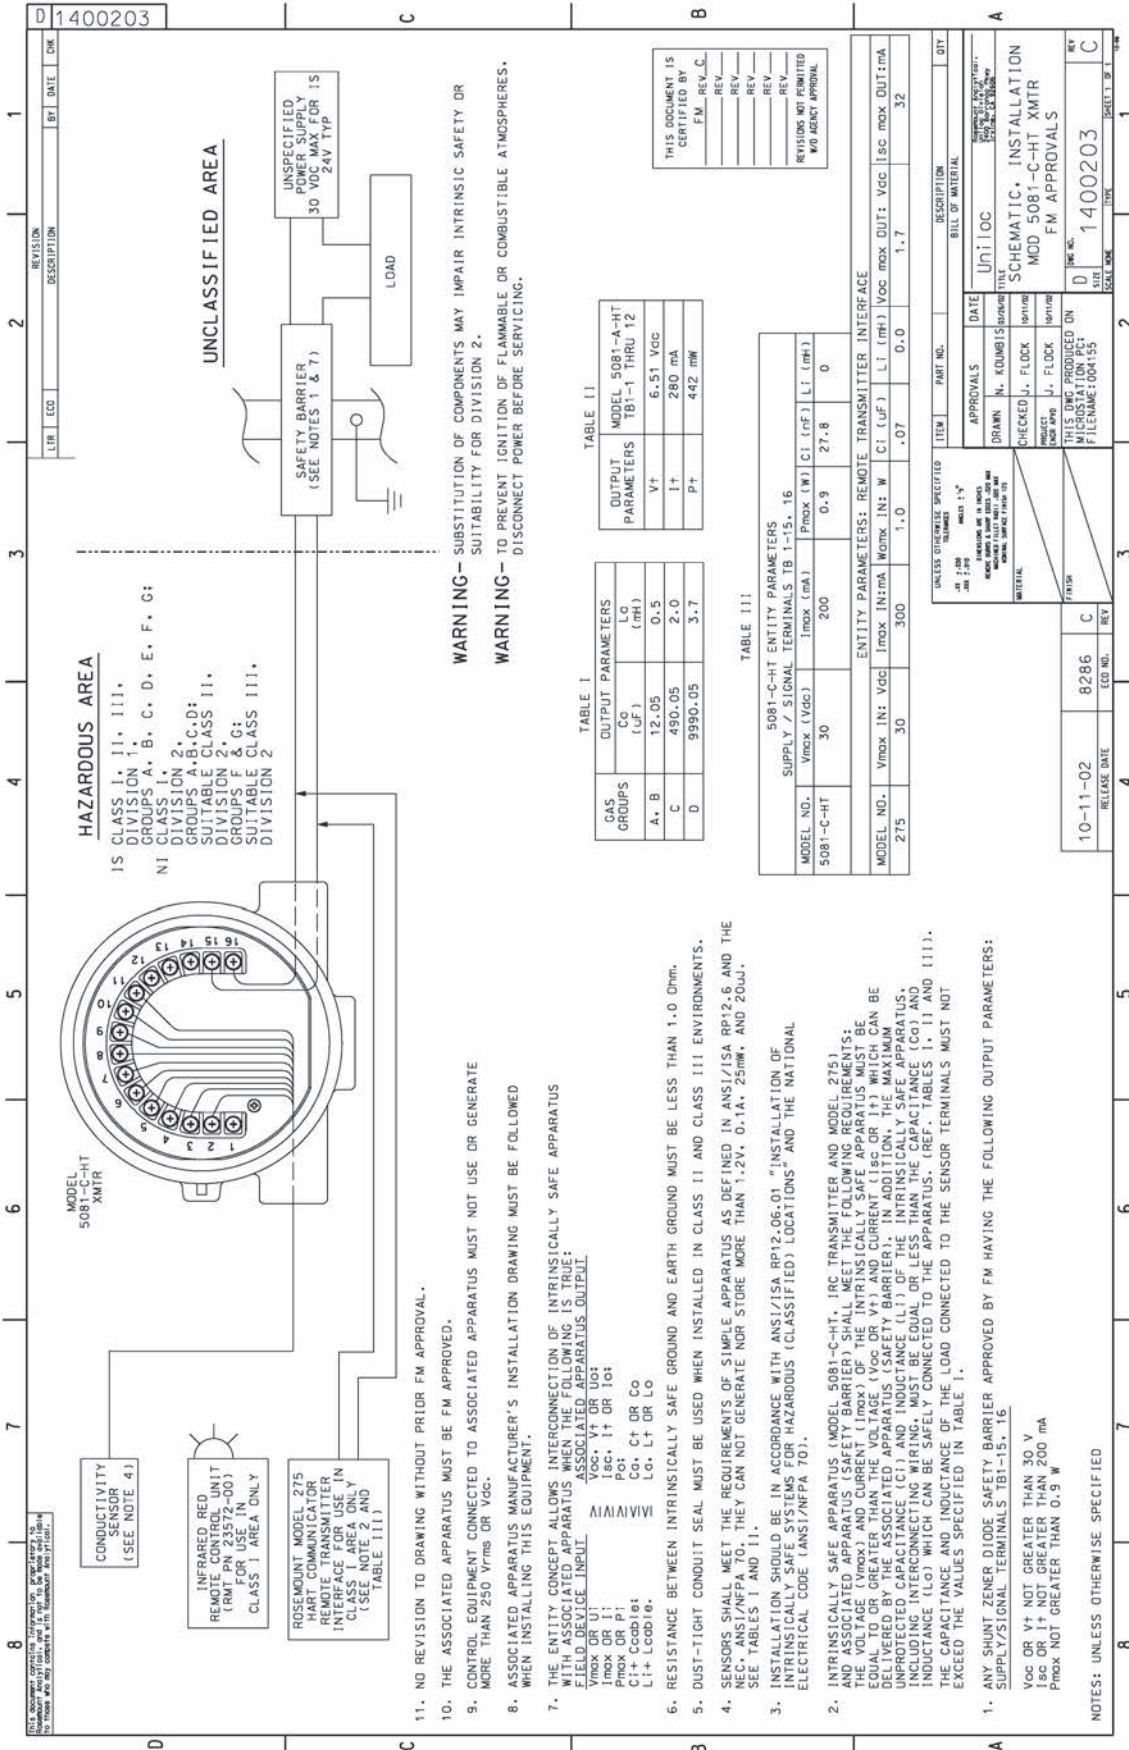

FIGURE 4-5. FM Intrinsically Safe Installation for Model 5081-C-HT
- For FM intrinsically Safe installation, see Figure 4-5.